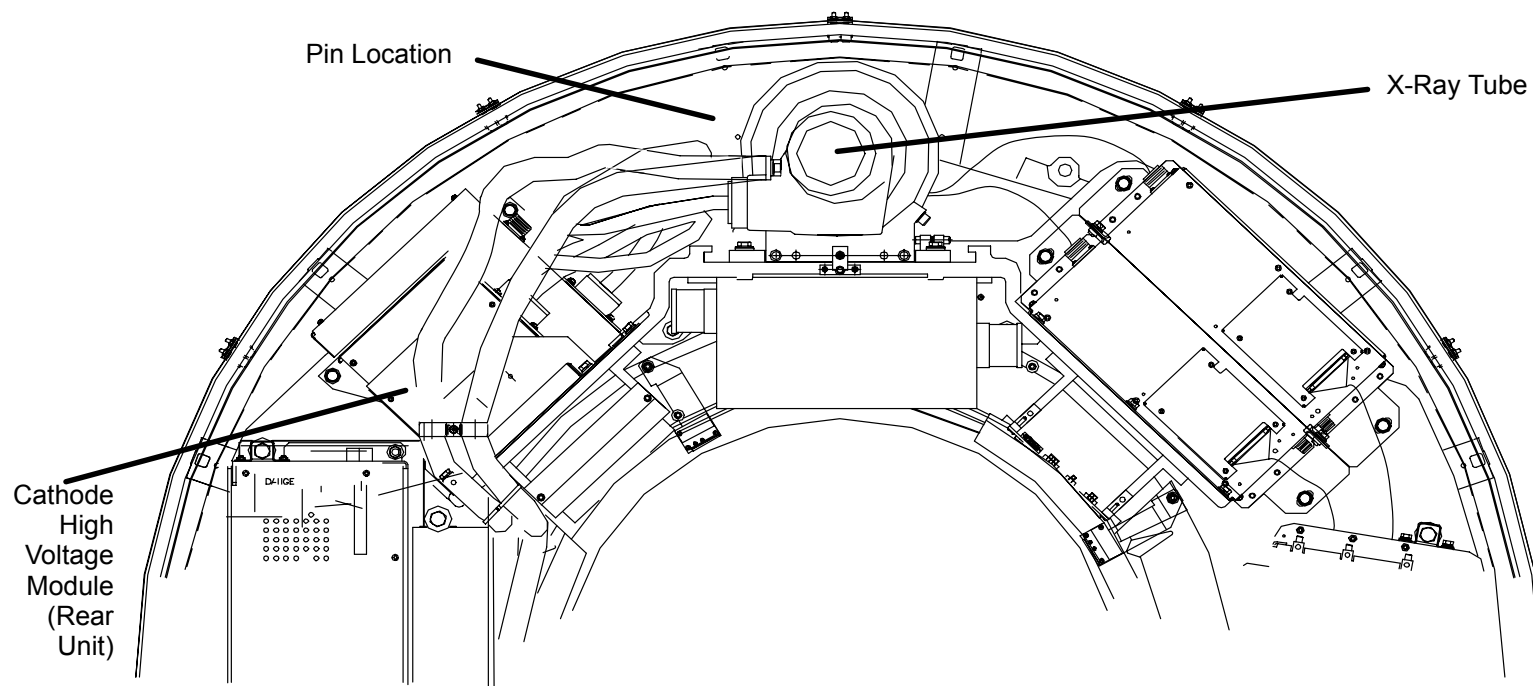

FIGURE 263 Scan Frame Pinned with X-Ray Tube at 12:00
3. Rotate the Scan Frame counterclockwise by hand until the X-Ray Tube is at the 12:00 position. Lock the Scan Frame with the Locking Pin. See Figure 263.